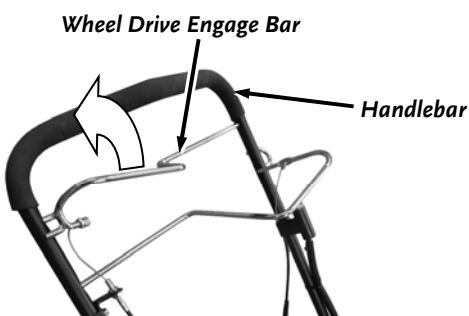

Figure 13
1. Bring the Wheel Drive Engage Bar toward you and the Handlebar (**Figure 13**). The closer to the Handlebar you move the Bar the faster the machine will travel. The machine will continue to move forward until you release the Bar.